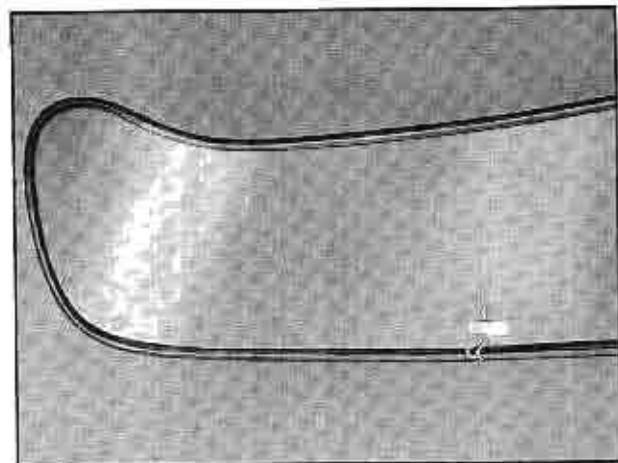

Fig. 3-70 Cord Attachment to Rubber Channel
3. Insert a heavy cord into the pinchweld cavity of the rubber channel, and bring both ends around to the bottom center of the glass. Tie ends of cord together, and tape to the glass as shown in Fig. 3-70.